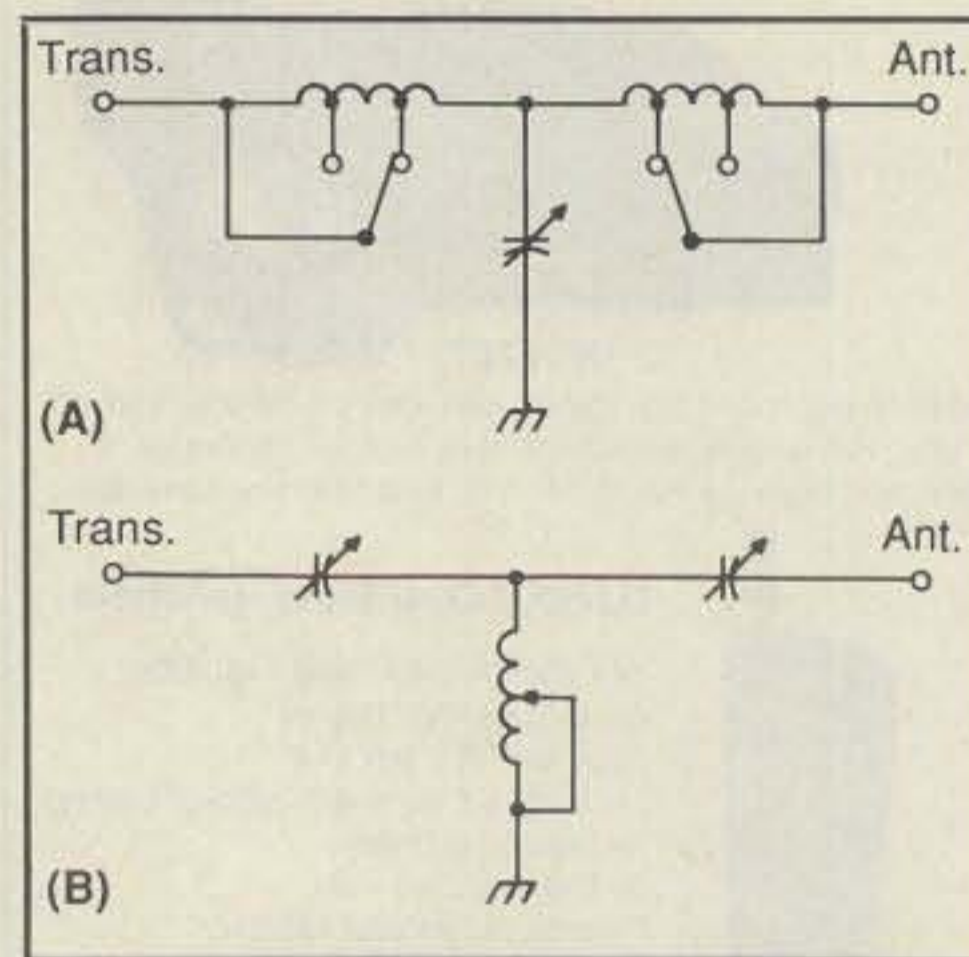

Fig. 1—At (A) is the circuit for the two-inductor-type tuner, while at (B) is the two-capacitor type.
When Advance Electronic Applications (AEA) brought out their new antenna tuner (Transmatch), I had the opportunity to review the unit for CQ. The Model AT-300 is a departure from the conventional two capacitor, one inductor (Walt Maxwell, W2DU) circuit. I have shown both types in fig. 1 at (A) and (B). Before going ahead, let me backtrack a little into the history of the antenna tuner so you have a better idea of the whys and wherefores.
I tried both the circuits shown in fig. 1 back in those days, and my conclusion was that while the two-inductor approach had better harmonic rejection, it was much tougher to get the parts—particularly switches. The use of two inductors and a single capacitor worked just as well as two capacitors and a single tapped inductor in most cases as far as matching was concerned. The main reason I never used the two tapped inductors was simply that it entailed using switches with multi-contacts, and they were hard to come by, as I stated above. Of course, AEA solved that problem by manufacturing their own switches. I am sure that arguments will go on over the merits of the two systems, but from my viewpoint Let me tell you about my tests with the Model AT-300.